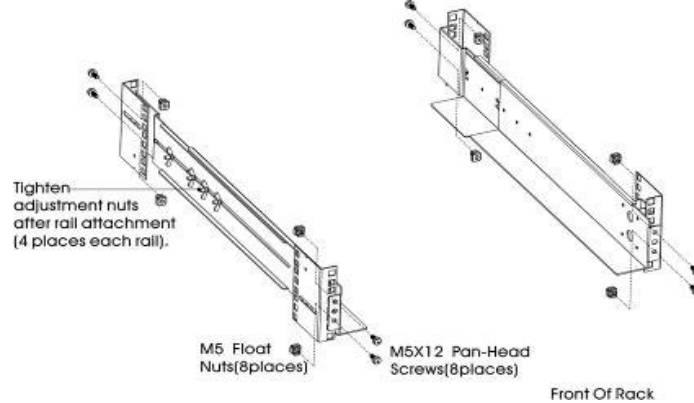

Figure 2 Fixing the Rails
- Select the proper size in the rack for positioning the UPS (see Figure 2). The rail occupies four positions on the front and rear of the rack.